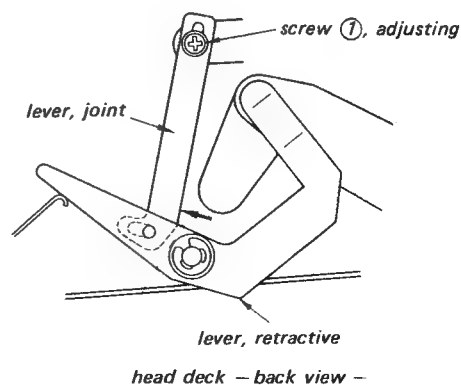

Fig. 11-7 Pinch roller stroke adjustment
- (3) Fix the screw ① while pushing the joint lever in the direction shown with arrow in Fig. 11-7.
- (4) Put the dummy capstan * into the capstan bearing and be sure that the pinch roller shaft moves by approx. 3 ~ 4 mm (1/8 ~ 5/12 inch) on the surface of the retractive lever when the function selector knob is changed from STOP to FWD.
- (5) Be sure that the washer for the pinch roller shaft does not come in contact with the part indicated with ▲ on the retractive lever when the function selector knob is changed slowly from FWD to FF.
- (6) After the adjustment, apply lock paint to the screw.